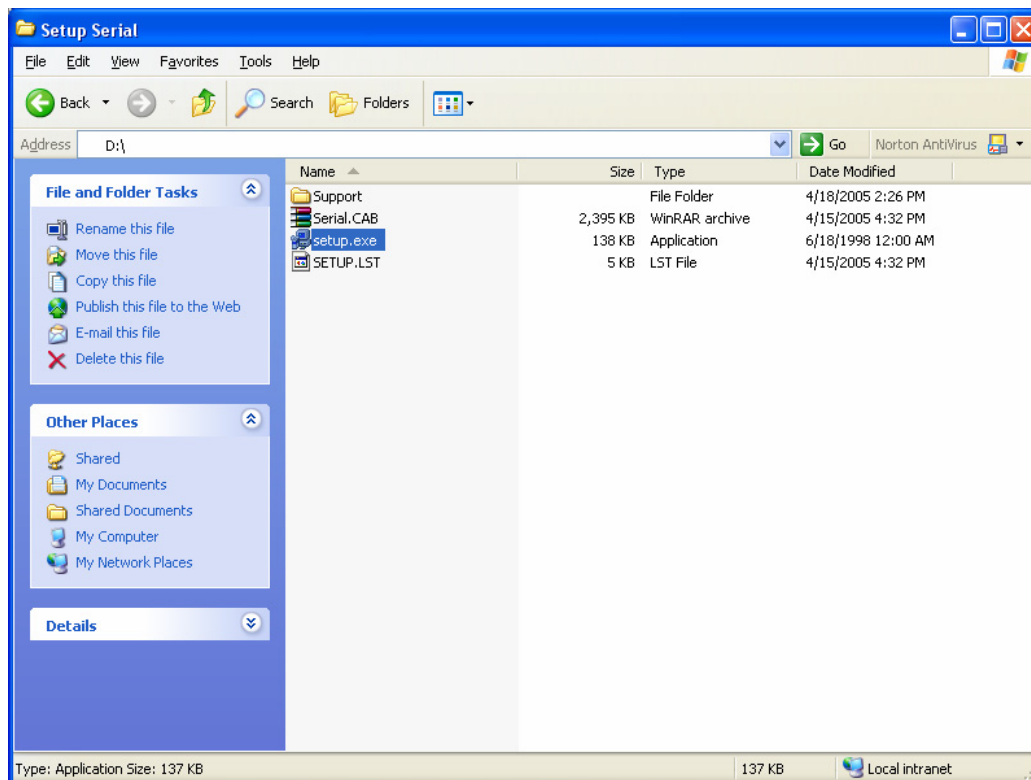

Figure 8: Installing the application utility for the M4-ChOLC
2. Double click on the setup.exe application in the CTI CD-ROM, see Figure 8.